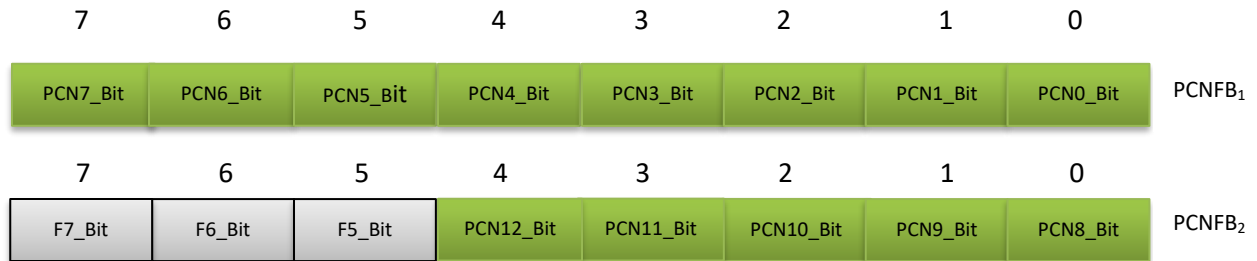

Figure 11. CAN FD Frame. Physical Channel Number & Flags
The *Physical Channel Number & Flags* field is used to transmit a physical channel number (PCN) of the CAN port on the transmitting node. It also contains a three-bit *Flags* (F) field, see Figure 11. The *Flags* are reserved for the future use.